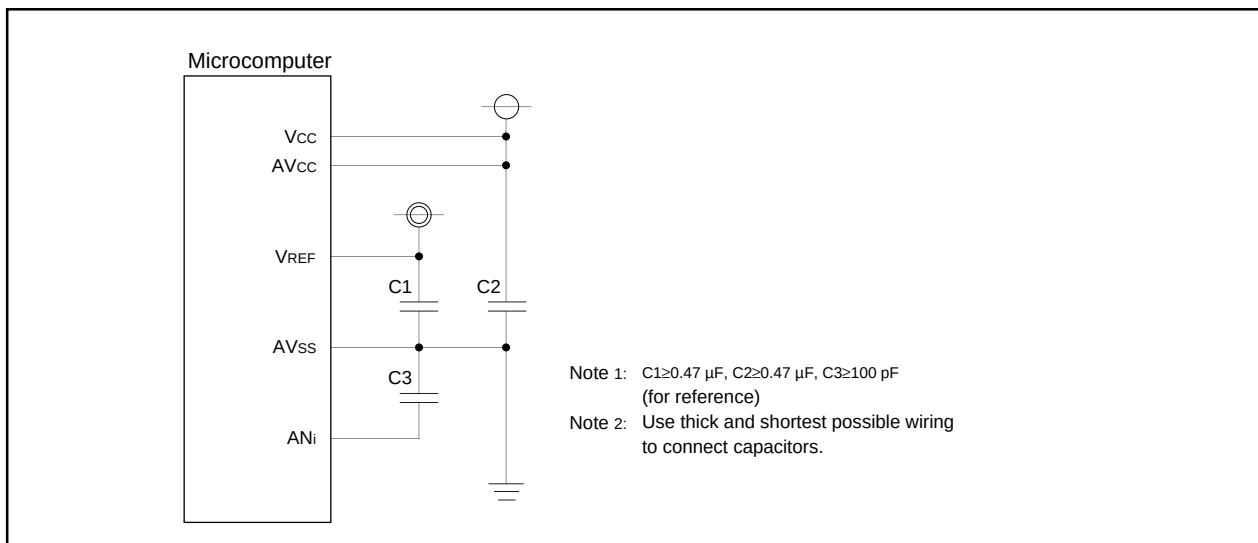

Figure 2.9.17. Use of capacitors to reduce noise
- (2) To reduce conversion error due to noise, connect a voltage to the AVcc pin and to the Vref pin from an independent source. It is recommended to connect a capacitor between the AVss pin and the AVcc pin, between the AVss pin and the Vref pin, and between the AVss pin and the analog input pin (ANi). Figure 2.9.17 shows the an example of connecting the capacitors to these pins.